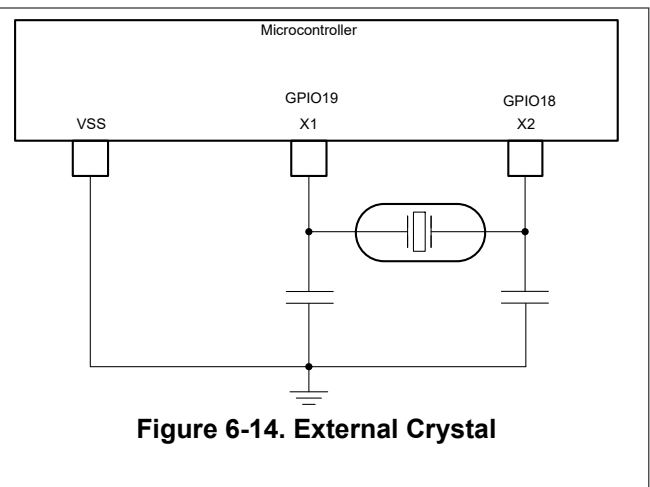

Figure 6-14. External Crystal
- An external crystal. The crystal should be connected across X1 and X2 with its load capacitors connected to VSS as shown in Figure 6-14.